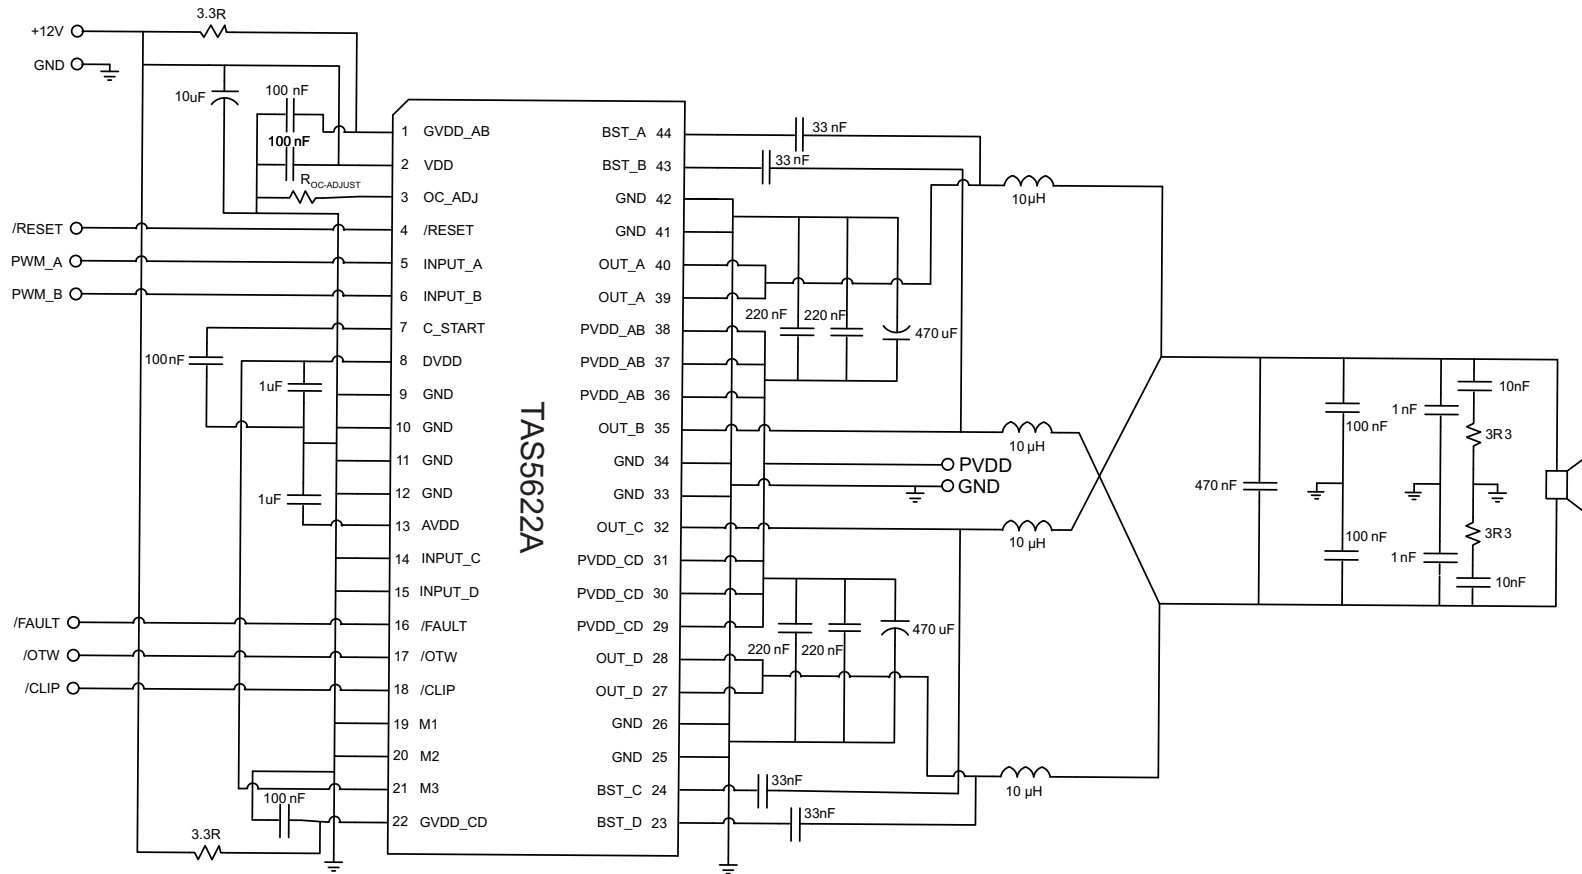

图 22. Typical Differential (2N) PBTL Application With AD Modulation Filter
See 图 22 for application schematic. In this application, one differential PWM input is used with AD modulation from the PWM modulator such as the TAS5558. AD modulation scheme is defined as PWM(+) is opposite polarity from PWM(-). The output PBTL configuration is often used to drive lower impedance load such as a subwoofer.
- Pins 27, 28, 32, 35, 39, 40 - Output pins from half-bridges A, B, C, and D. Connect appropriate bootstrap capacitors and differential LC filter as shown in 图 22.
- Pins 29, 30, 31, 36, 37, 38 - Power supply pins to half-bridges A, B, C, and D. A and B form a full-bridge and C and D form another full-bridge. A 470-μF bulk capacitor is recommended for each full-bridge power pins. Two 0.22-μF decoupling capacitors are placed on each full-bridge power pins. See 图 22 for details.